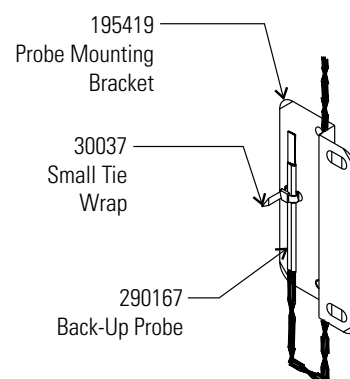

Figure 5-3. Secure probe
2. As shown in Figure 5-3, thread the small tie wrap through the openings in the front of the bracket. Secure the probe on the back of the bracket with the tie wrap.